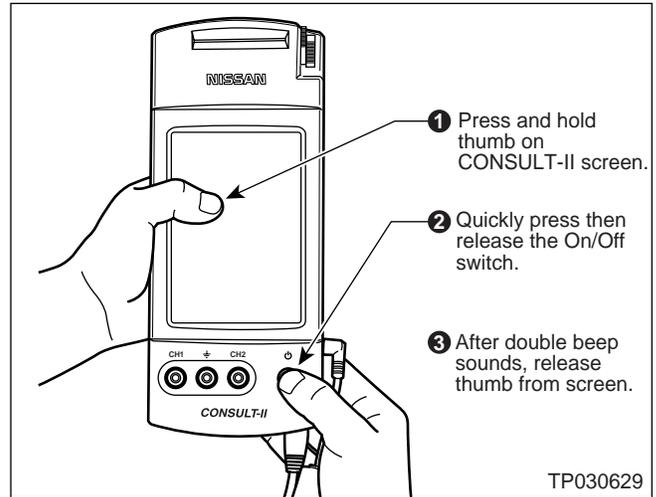

Figure 6
8. Turn "ON" CONSULT-II as shown in Figure 6.
**NOTE:** If you accidentally choose a menu option other than "Transfer Files via LAN"; turn CONSULT-II "OFF", and then back "ON" as shown in Figure 6 above.